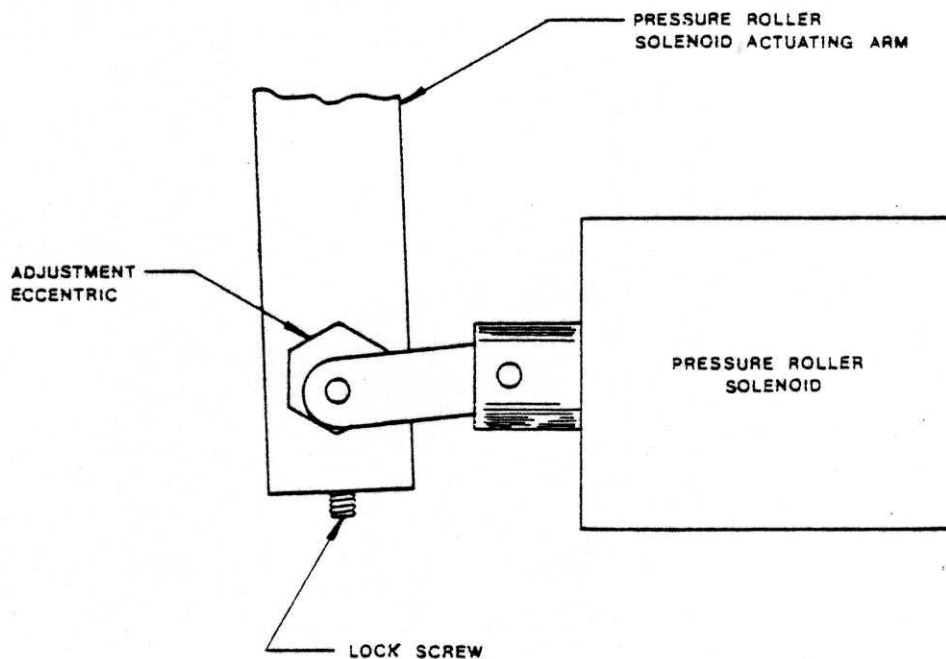

FIG. 2 - PRESSURE ROLLER SOLENOID ADJUSTMENT
- 5.2.1** The pressure roller solenoid is also designed to be acoustically quiet and hence must be adjusted so that it does not pole. Refer to figure 2 for adjustment points.